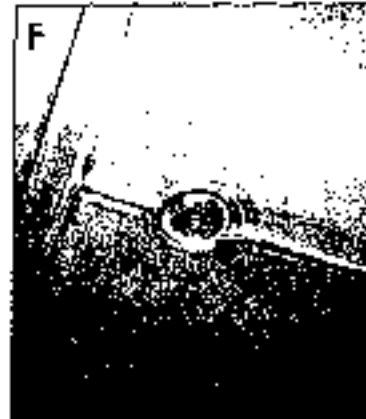

Fig. 7-30 Location of drain valve in fuel system
8.1 FUEL TANK DRAIN (See Fig. 7-30)